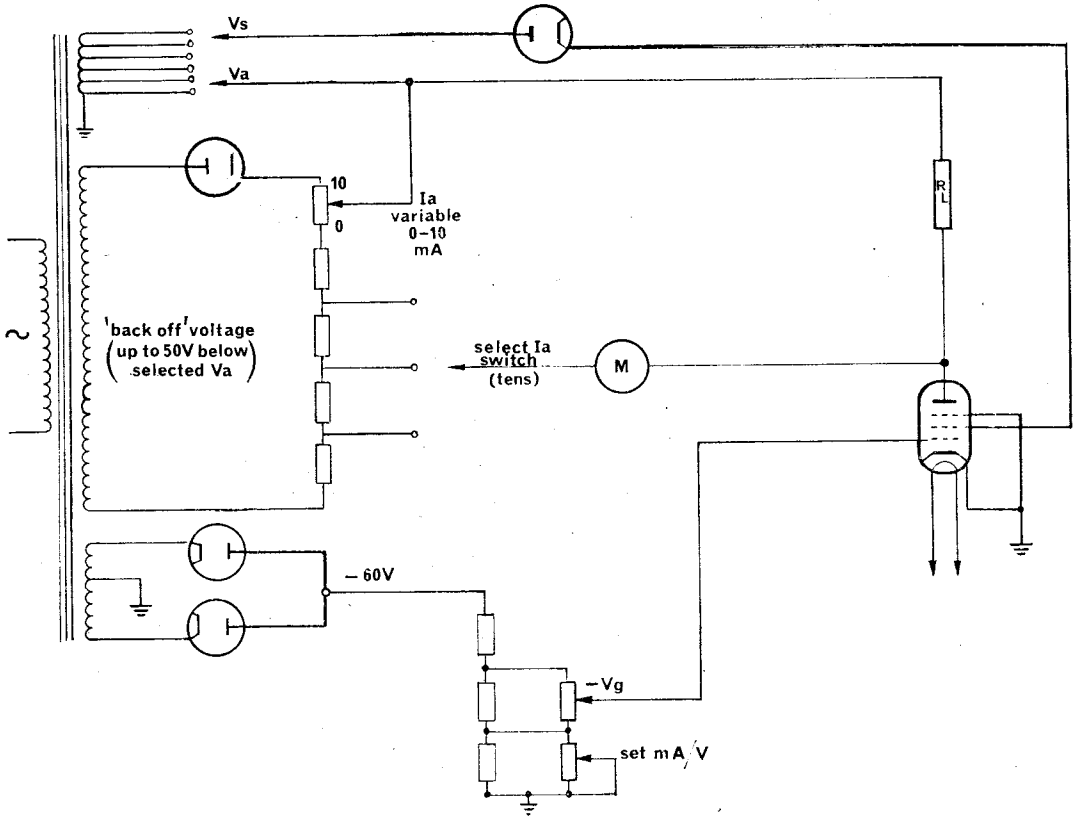

Fig. 5 Simplified circuit of CT160 mutual conductance test
28. **CT160 mutual conductance tests.** The simplified circuit used for mutual conductance testing in the CT160 is shown in figure 5. Anode, screen, grid and heater voltages corresponding to the working point of the valve (class A) are applied and the resulting anode current of the valve causes a voltage drop across the low value resistor R_L . A backing off voltage is applied to the other end of the meter and the controls adjusted until the meter reads zero (these backing off controls are calibrated in anode current as the voltage across R_L is equal to $R_L I_a$). A small incremental voltage, proportional to the expected g_m of the valve, is then applied to the grid by adjusting the set mA/V control. The resulting increase in anode current causes a larger volts drop across R_L and deflects the meter pointer. As the incremental voltage was proportional to g_m all valves should